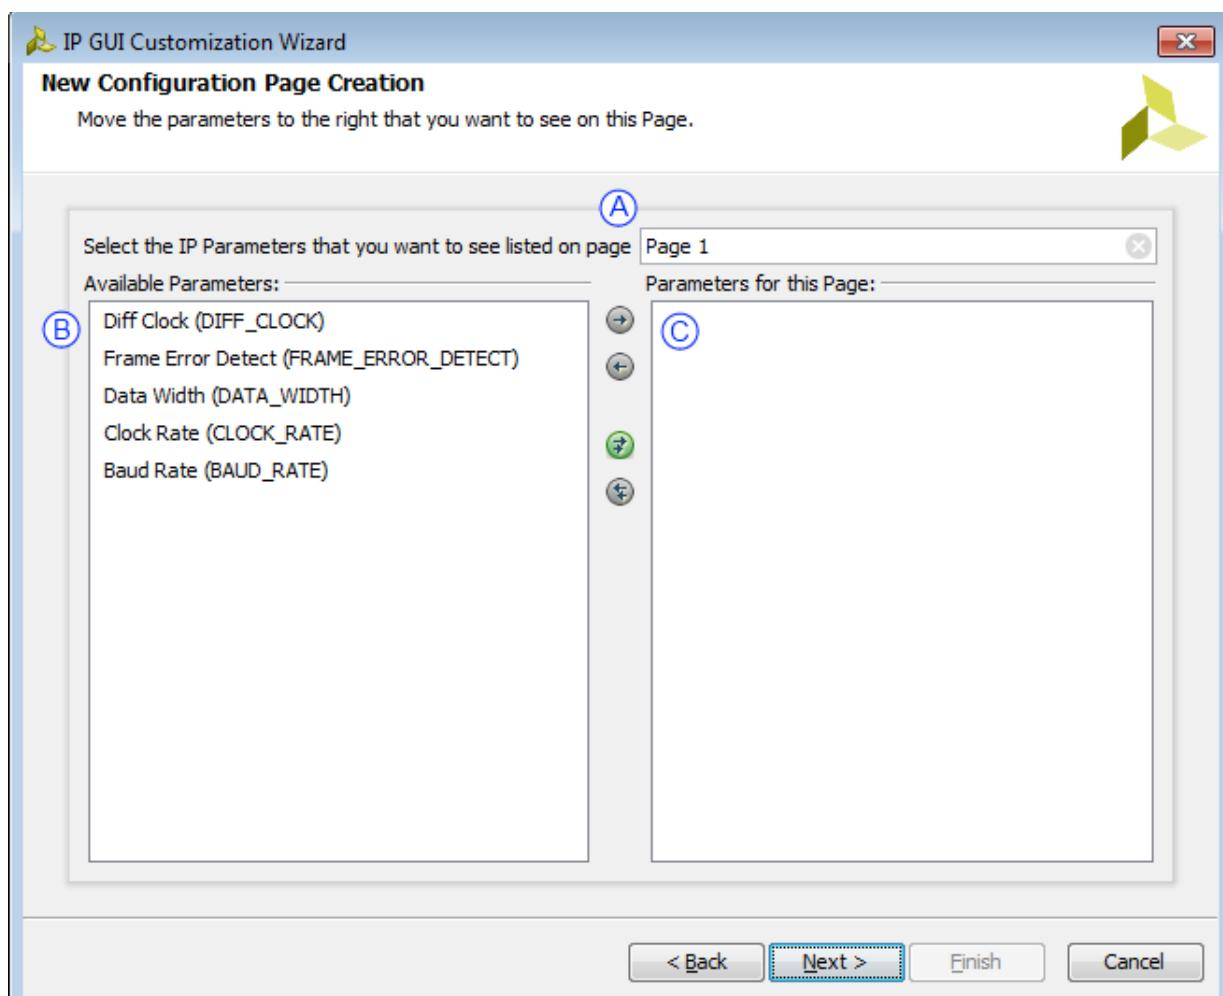

Figure 8-85: New Configuration Page Creation
The New Configuration Page Creation dialog box opens (Figure 8-85, page 137) The IP GUI Customization has, at minimum, one page of parameter customization. This dialog box lets you control which parameters exist on the first page.
- By default, the IP Parameters pages are numbered with an incremental count of the customization pages. You can rename a page using the input text field box, as shown in section (A) of Figure 8-85.
- Section (B) shows the list of available parameters within the customization GUI. If a parameter was on a previous page, it is not shown as available in the list. The parameters show with the display name of the parameter first, followed by the parenthesized parameter name.
- Section (C) of the dialog box pane lets you control the parameters to use for the respective page.